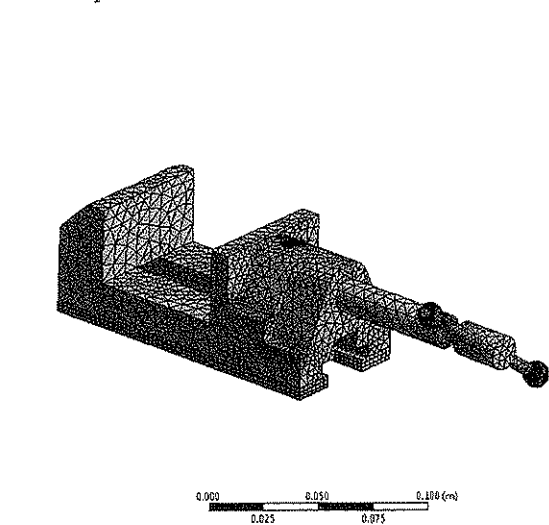

Figure 8-34 Mesh generated with the Patch Independent method applied to the Base and the Slider
- 42. In the **Section Planes** window, clear the **Slice Plane1** check box; the complete view of the model is restored, refer to Figure 8-34.
- 43. Choose the **Update** tool from the **Mesh** contextual toolbar; the mesh is generated with the local mesh control settings, as shown in Figure 8-34.